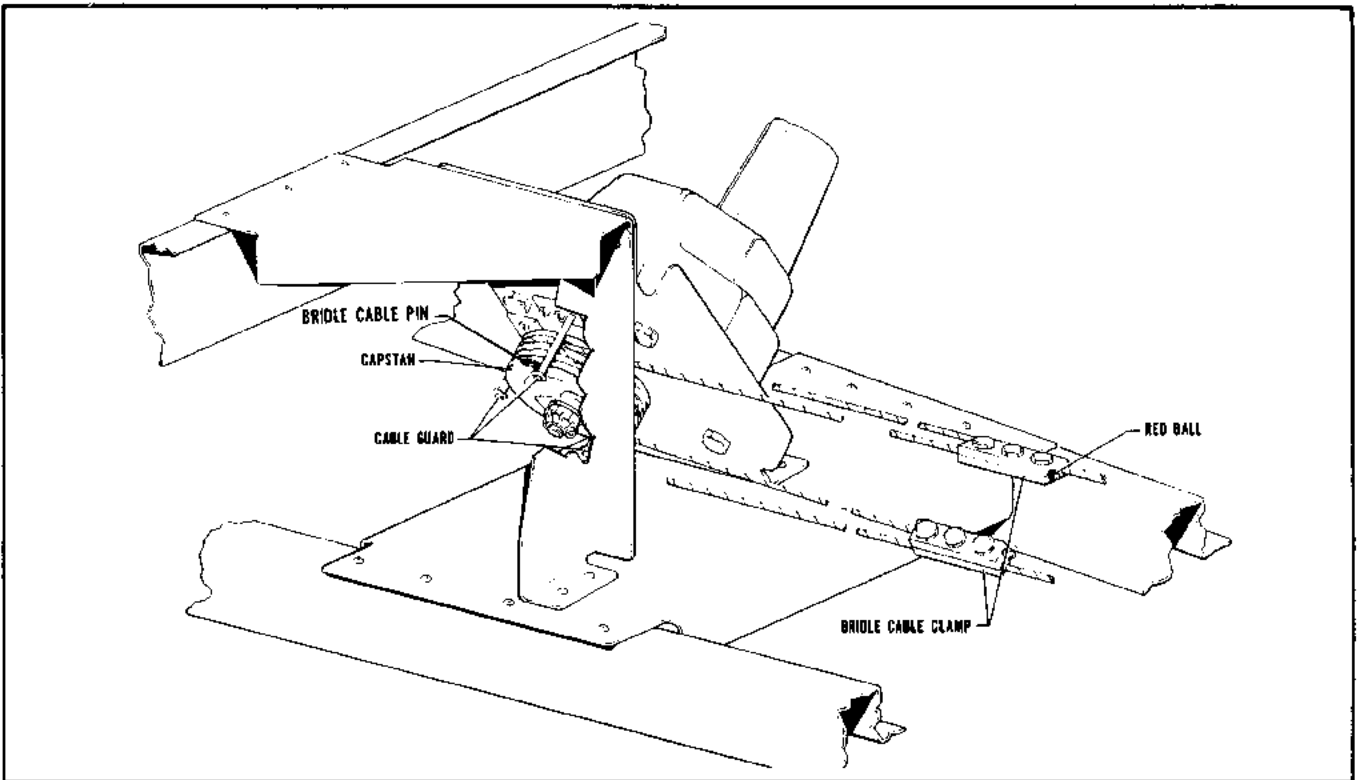

Figure 3-16. Pitch Servo Installation, PA-23-250
3-21. INSTALLATION OF PITCH SERVO. (PA-23-250 Six Place) E Model. (Refer to Figure 3-16.)
- e. REFER TO FIGURE 3-9 AND CHECK THAT THE CONTROL CABLE TENSION (Z) IS ADJUSTED TO 35 ± 4 POUNDS PRIOR TO ATTACHING THE BRIDLE CABLE CLAMPS. Ascertain area on cable where clamp attaches is clean, dry and free of all lubricants and anti-corrosive additives. Attach the bridle cable to the stabilator control cables. The bridle cable is drawn to the stabilator control cables and attached with clamps at the previously painted locations. The end of the bridle cable with the red ball is attached to the left control cable. (Refer to Figure 3-16.) (Should the stabilator cables not be painted, position the control wheel full forward and with the servo disengaged, align the bridle cable pin installed in the capstan as shown in Figure 3-16. Adjust the bridle cable clamps so that the bridle cable tension (Y) as shown in Figure 3-9 is 15 ± 2 pounds. Check the control cable tension forward of the bridle cable clamps and adjust, if necessary to obtain 35 ± 4 pounds. If the control cables require adjustment, it will be necessary to readjust the bridle cable tension to 15 ± 2 pounds. Torque the bridle cable clamp bolts to 55 ± 5 inch-lbs.